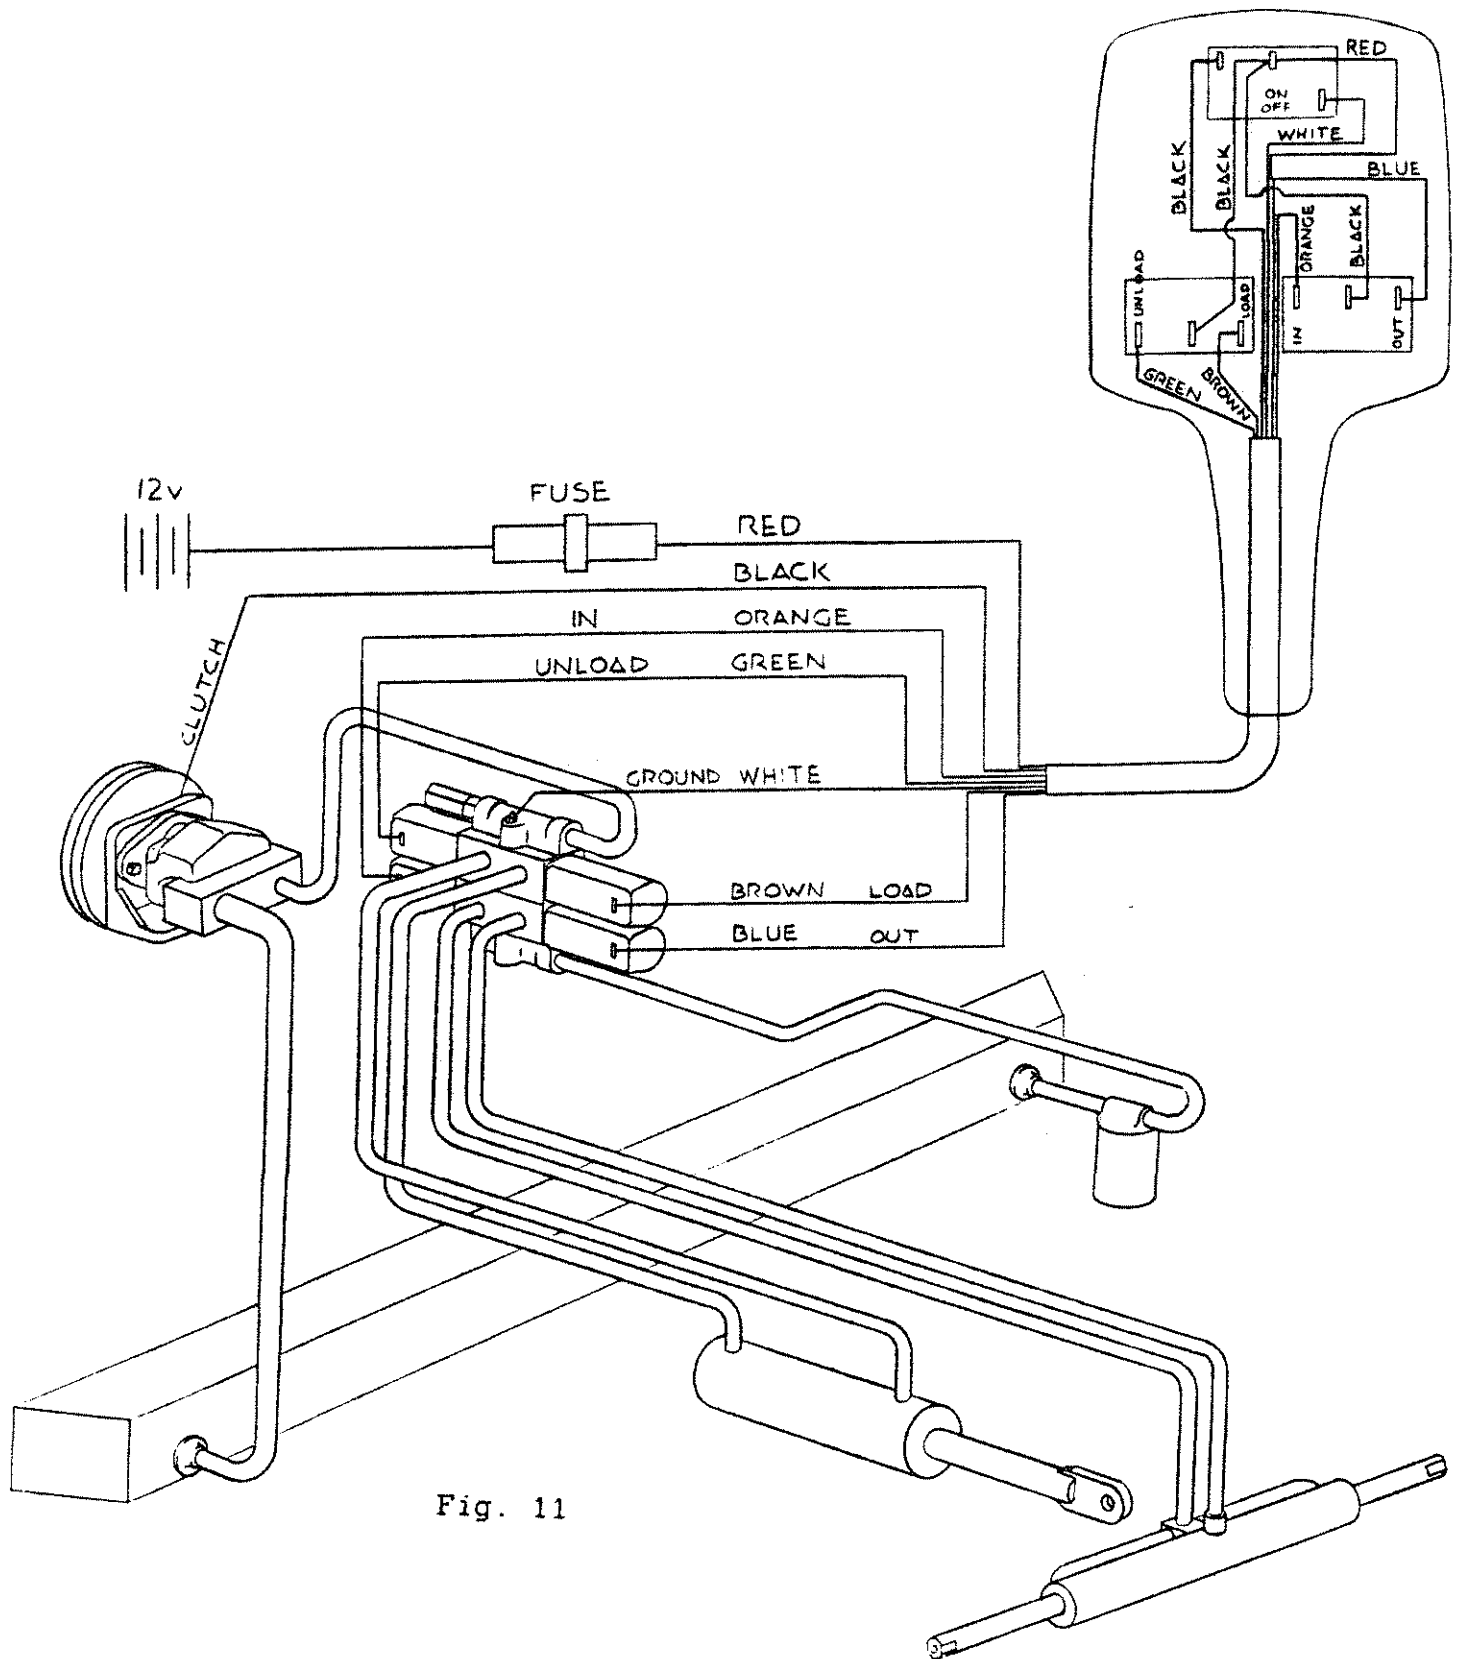

Fig. 11
6. Push the four wire ends onto the posts of the Valve Solenoids, matching the colors as shown on Page 9, figure 11.